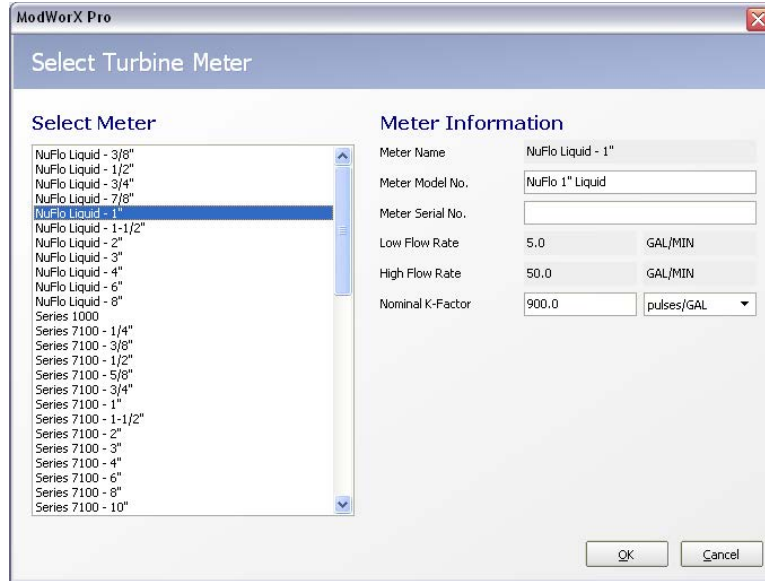

Figure 13.6
6. To select a new meter, click *Select Meter*. The Select Turbine Meter dialog will appear (Figure 13.6).